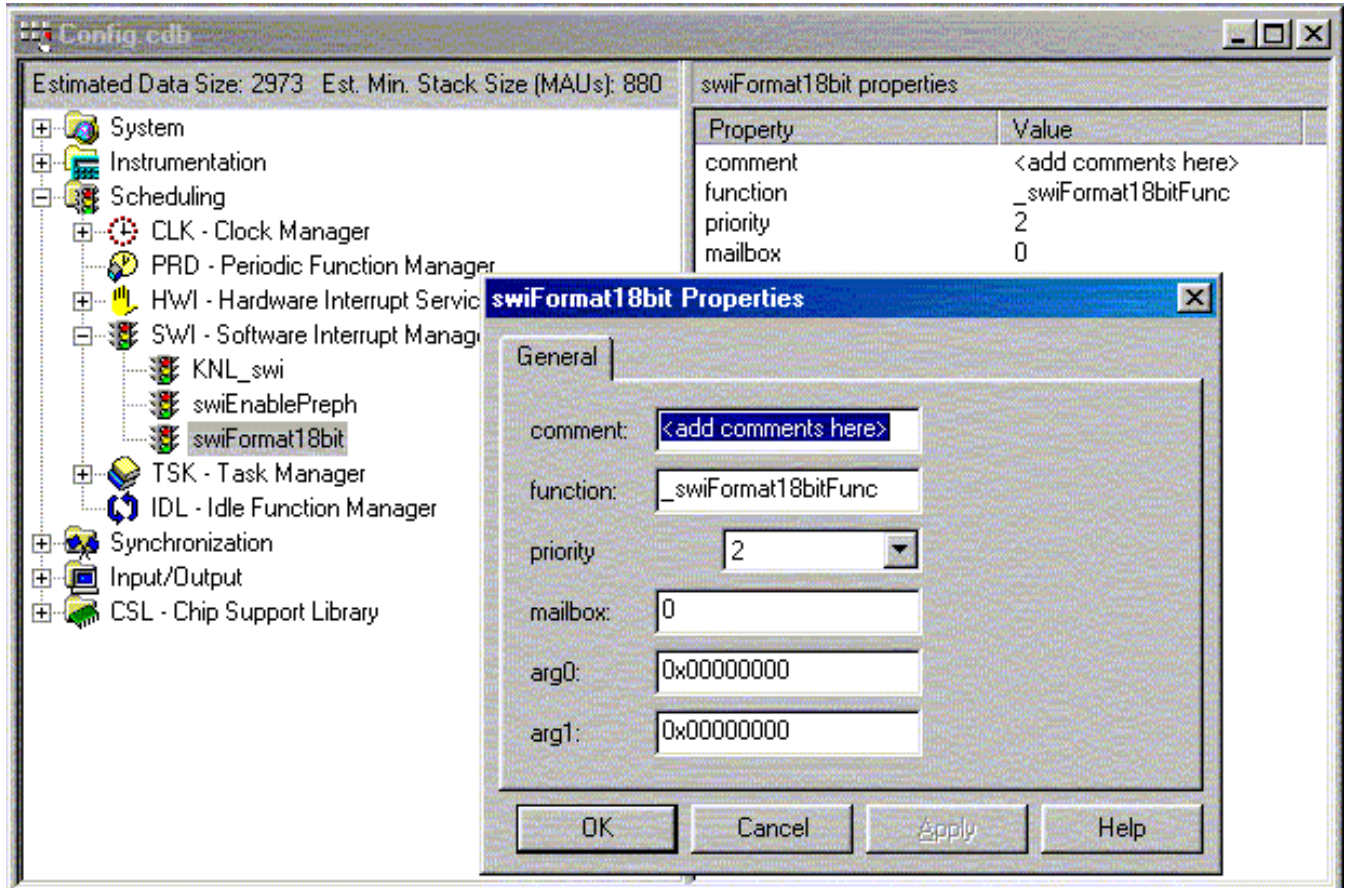

Figure 30. swiFormat18bit Properties
3. Right click on swiFormat18bit and set fields as shown in Figure 30. Format18bit software interrupt copies the data from ad\_buffer to F\_Buffer. While copying data into F\_Buffer, the data is formatted such that the top 14 bits of the 32-bit word are cleared.